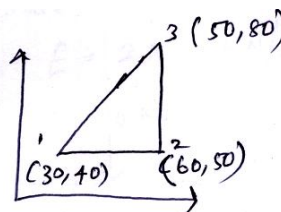

Fig. Q7 (a)
- 7 a. For the triangular element shown in Fig. Q7 (a). Obtain the strain-displacement matrix 'B' and determine the strains ϵ_x , ϵ_y and γ_{xy} Nodal displacement